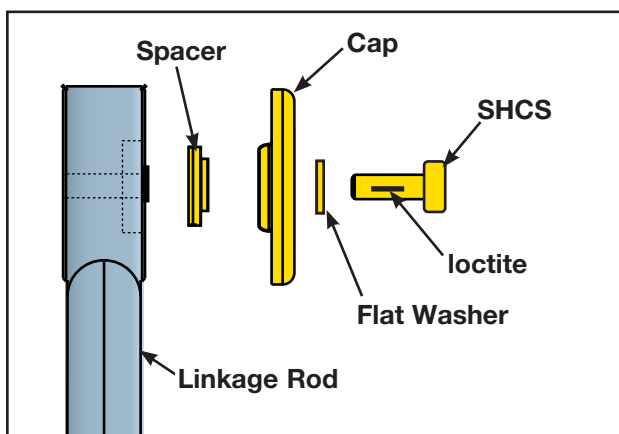

Figure 13
- C. Using a 3/16" Allen wrench, install SHCS, spacer, cap and washer (removed in steps 6A-6B) . See Figure 13. **NOTE:** SHCS must be tightened to a minimum of 90 inch-pounds.
- C. Using a 3/16" Allen wrench, install SHCS, spacer, cap and washer (removed in steps 5A-5B). See Figure 13. **NOTE:** SHCS must be tightened to a minimum of 90 inch-pounds.